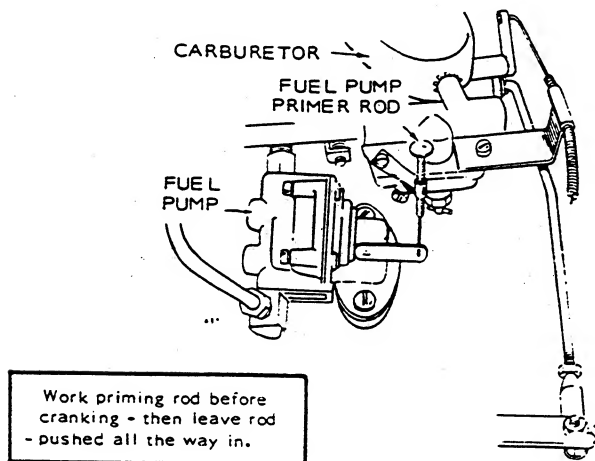

FIGURE 1. PRIMING FUEL PUMP
2. Operate the fuel pump primer rod (Figure 1) approximately 15 complete strokes to fill the carburetor. Primer rod is not furnished on electric start models.